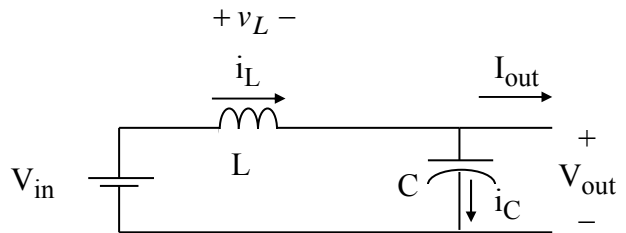
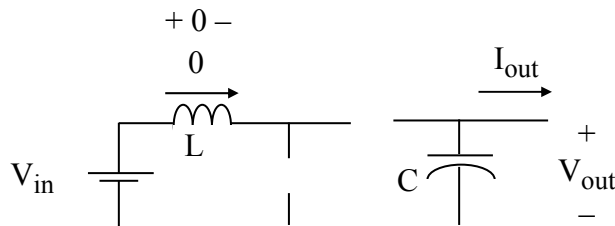

Figure 2b. Switch Open for $(1-D)T$ Seconds (Continuous Conduction)
Figure 6. Third State for Discontinuous Conduction
$$\frac{di_L}{dt} = \frac{v_L}{L} = \frac{V_{in} - V_{out}}{L}, \quad DT < t < T, \quad [\text{KVL, from Figure 2b.}] \quad (3)$$
At low load, the converter may slip into the discontinuous conduction mode. Referring back to Figure 2b, this occurs when the inductor current decreases to zero. At that moment, the capacitor attempts to reverse i_L and “backfeed” the inductor, but reversal is prevented by the freewheeling diode (for this discussion we will ignore the practical effect of diode reverse recovery current). Thus, the diode opens, and the circuit assumes the topology shown in Figure 6 until the switch closes again. During this third state, all load power is provided by the capacitor.
Referring to Figure 2b, when the MOSFET is open, it is subjected to V_{out} . Because of the usual double-voltage switching transients, the MOSFET should therefore be rated $2V_{out}$.